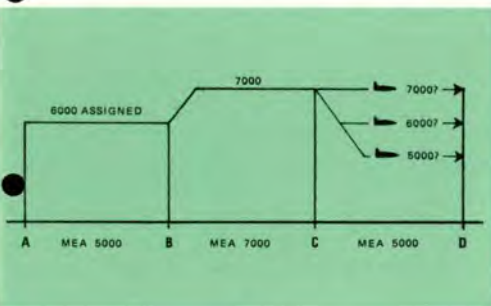

FIG. 2
8. Your last assigned altitude is 6000 feet. You are in the weather and lose communications just after point A (Figure 2). You climb to 7000 feet at point B because of the MEA. What altitude should you fly from C to D?